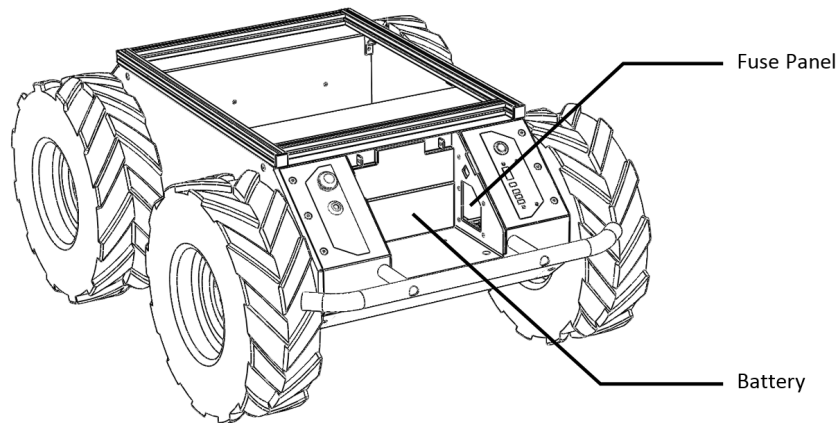

Figure 6: Husky Battery Area
3. Carefully connect the battery plug to the mating connector in the fuse panel, shown in Figure 6. Ensure that it is firmly seated and clicks into place. It will be difficult to connect it in the incorrect polarity.